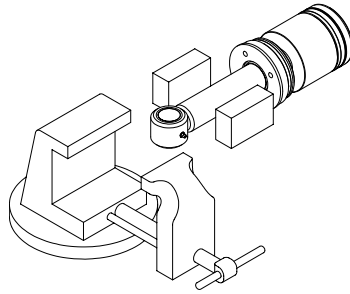

Figure 5-38, Piston Rod
4. Clamp the rod assembly in a soft-jawed vise on the wrench flats, not on the rod surface. If the rod does not have wrench flats, use two pieces of wood on both sides of the rod to prevent scarring. (Figure 5-38)
3. Line up the cylinder rod end to the body by extending the cylinder rod. Install the pivot pin retainer. (Figure 5-38)